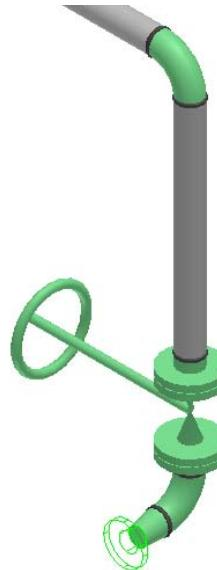

Figure 72: Outlined Flange in the Graphic View
17. An outline of the flange will appear in the graphic view, as shown in Figure 72. Click **Finish** on the **Insert Component** ribbon to place the flange.